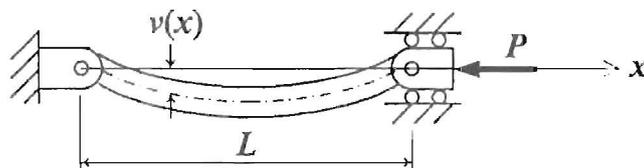

Fig. P4
4. Consider a pin-supported, initially slightly bent slender member subjected to an axial load P as shown in Fig. P4. The initial deflection profile of the member is given by $v_0(x) = \delta_0 \sin(\pi x/L)$. Flexural rigidity of the member is EI .